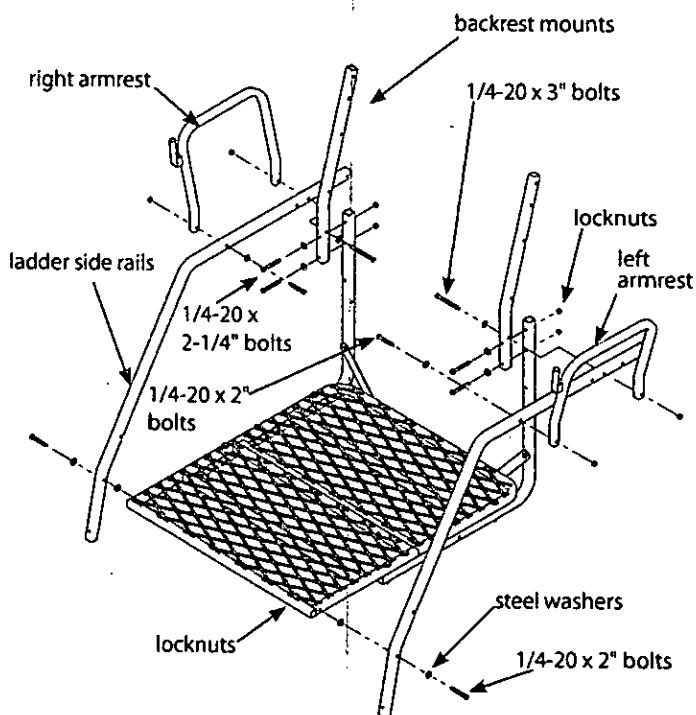

Figure 3
4. Attach the front of the ladder side rails (410053) to the front platform using (2) provided 1/4-20 x 2" bolts (2), locknuts (4) and steel washers. SEE FIGURE 3.
5. Attach the left armrest (410062L), right armrest (410062R) and (2) backrest mounts (410082) to the previously assembled ladder side rails and platform support rails using (2) provided 1/4-20 x 2" bolts, (4) 1/4-20 x 2-1/4" bolts, (2) 1/4-20 x 3" bolts, (8) locknuts and (8) steel washers. SEE FIGURE 3.